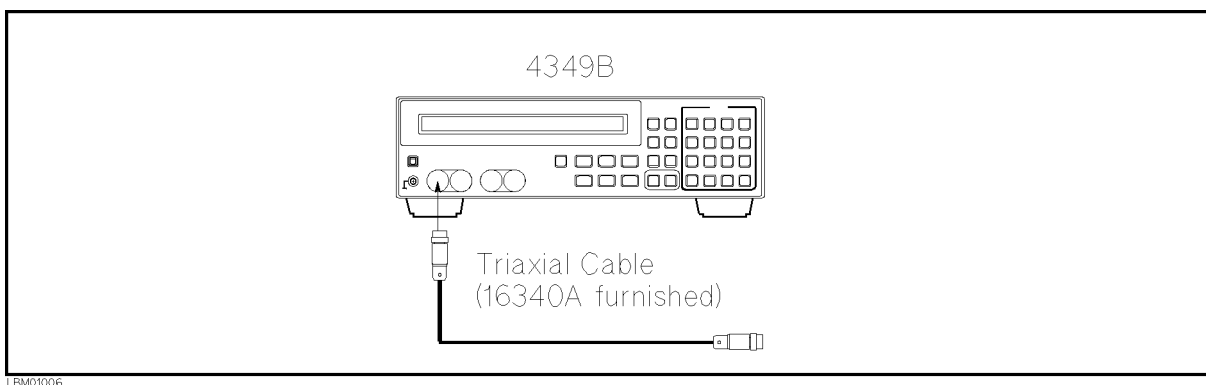

Figure 9-4. Current Measurement Accuracy Test Setup
- Set the measurement parameter to current (I).
- Set up the equipment as shown in Figure 9-4.